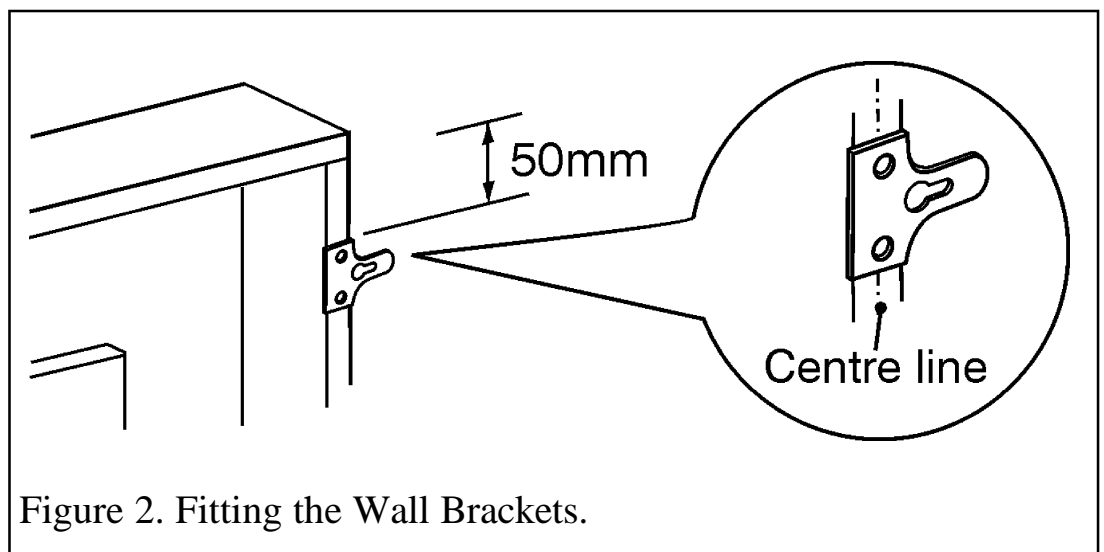

Figure 2. Fitting the Wall Brackets.
- Lay the surround (A) onto a smooth, flat, clean surface with the inside facing upward. Place wall fixing brackets (C) 50mm from the top outside edge of the legs as shown in figure 2. Ensure that the two fixing holes in the brackets are positioned in the centre of the outside edge of the leg. The wood may split if the fixing holes are not central. Secure in place using four screws (F). Guide holes may already be in place.